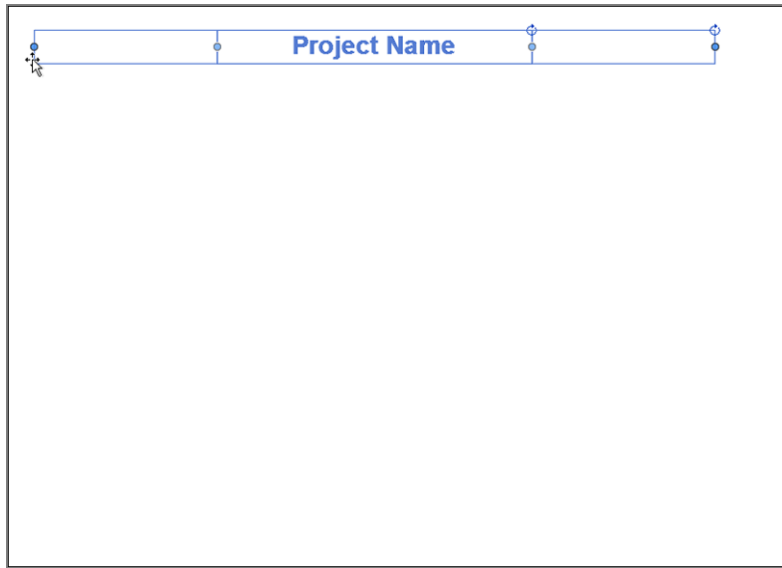

FIGURE 14.27: Adjusting the label so that it's centered in the sheet
- 3. Click the label, and widen the grips. You may have to adjust the label so that it's centered in the sheet, as shown in Figure 14.27.